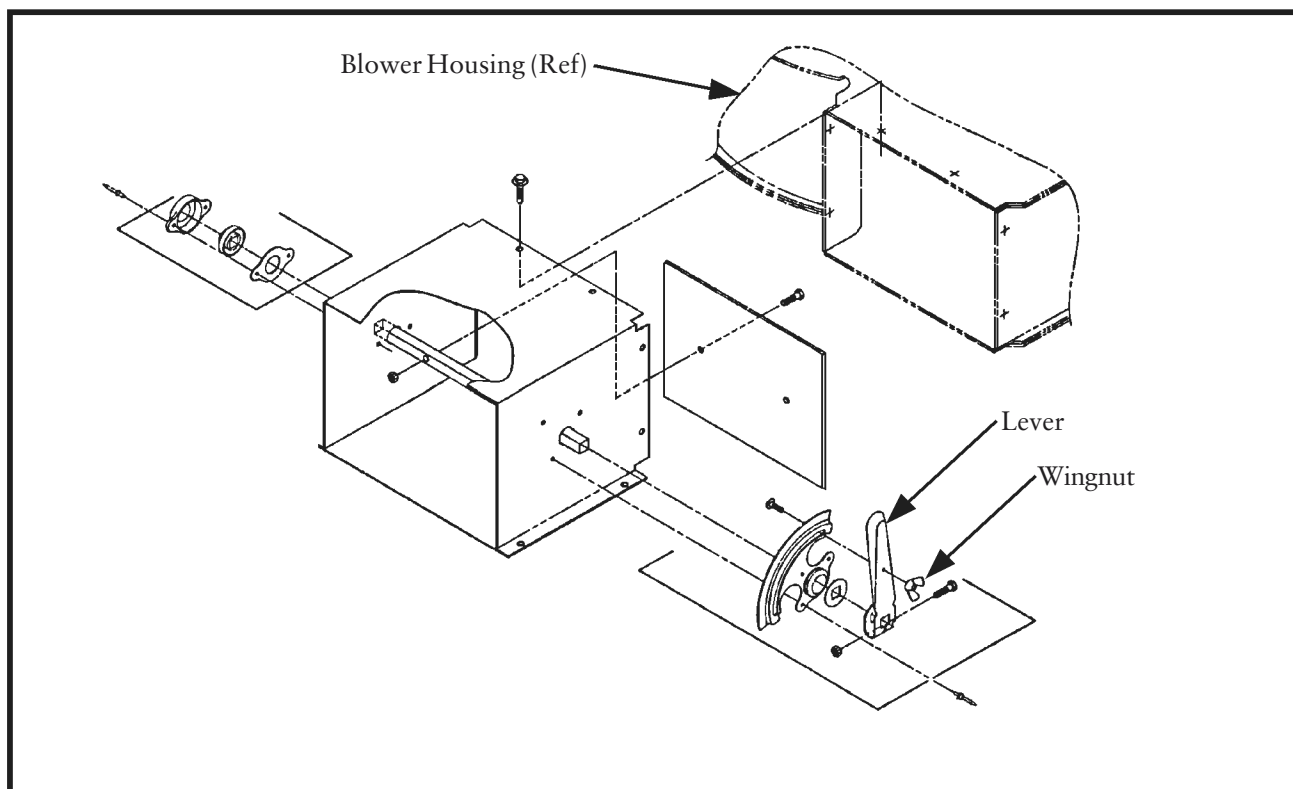

Figure 15
2.6.11 Damper Pack (See Figure 15)